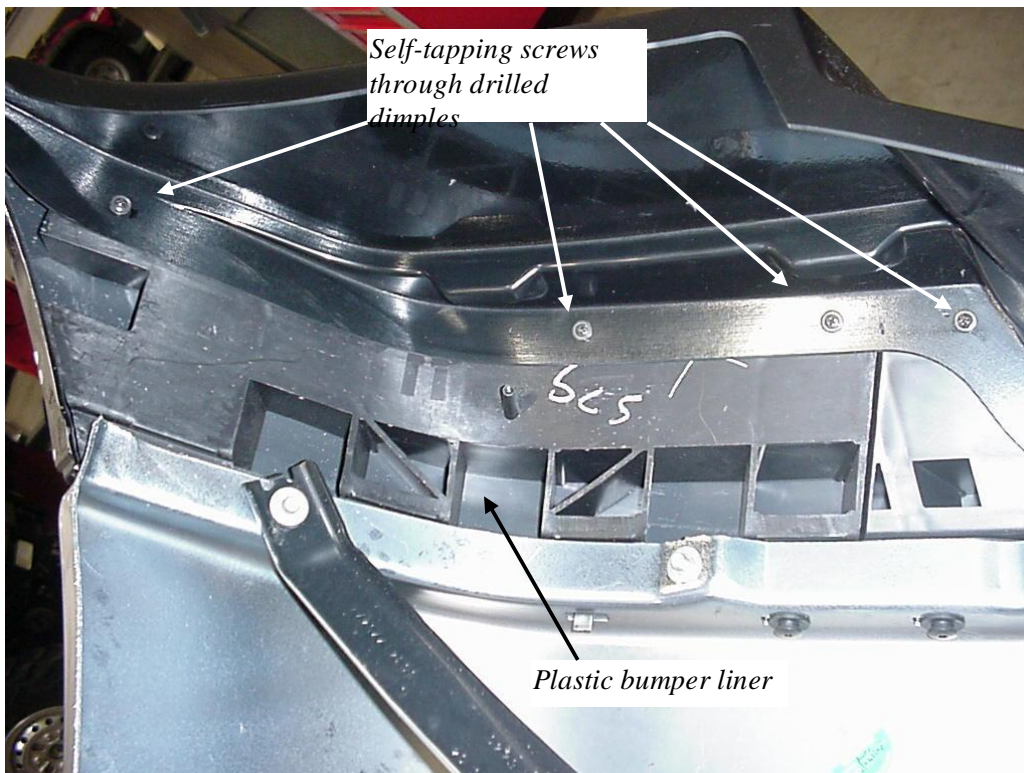

Figure 2 LH Skirt screw locations, screws installed
3. Drill a 3/16" hole through each of the four(4) dimples in the skirt mounting flanges. **Figure 2.**
5. Hold the Skirt in position and drill 1/8" holes into the plastic bumper liner through each of the previously drilled 3/16" holes. Install self-tapping screws in each hole and tighten. **Figure 2**